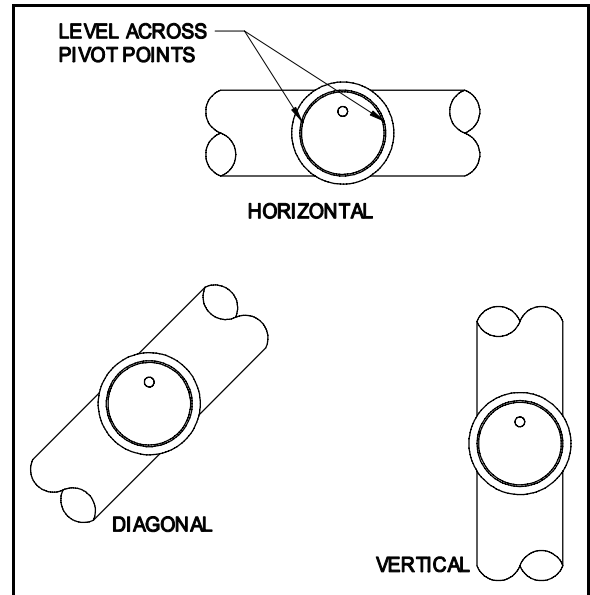

Figure 8
4. Mount the VRV assembly onto the tee and fasten with a screw and nut in collar tabs. To ensure proper operation, check the gate for being level across the pivot points and plumb. (See Figure 8)